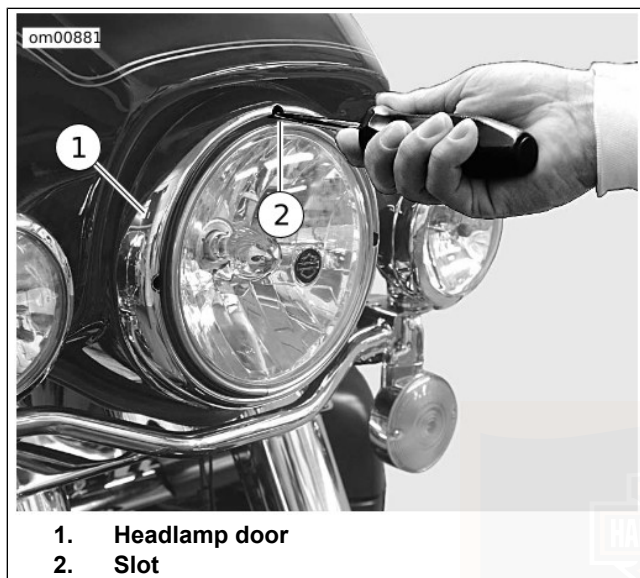

Figure 63. Headlamp Door: 2008 Touring Models
1. See Figure 63. Insert Phillips screwdriver between headlamp housing and rubber gasket.